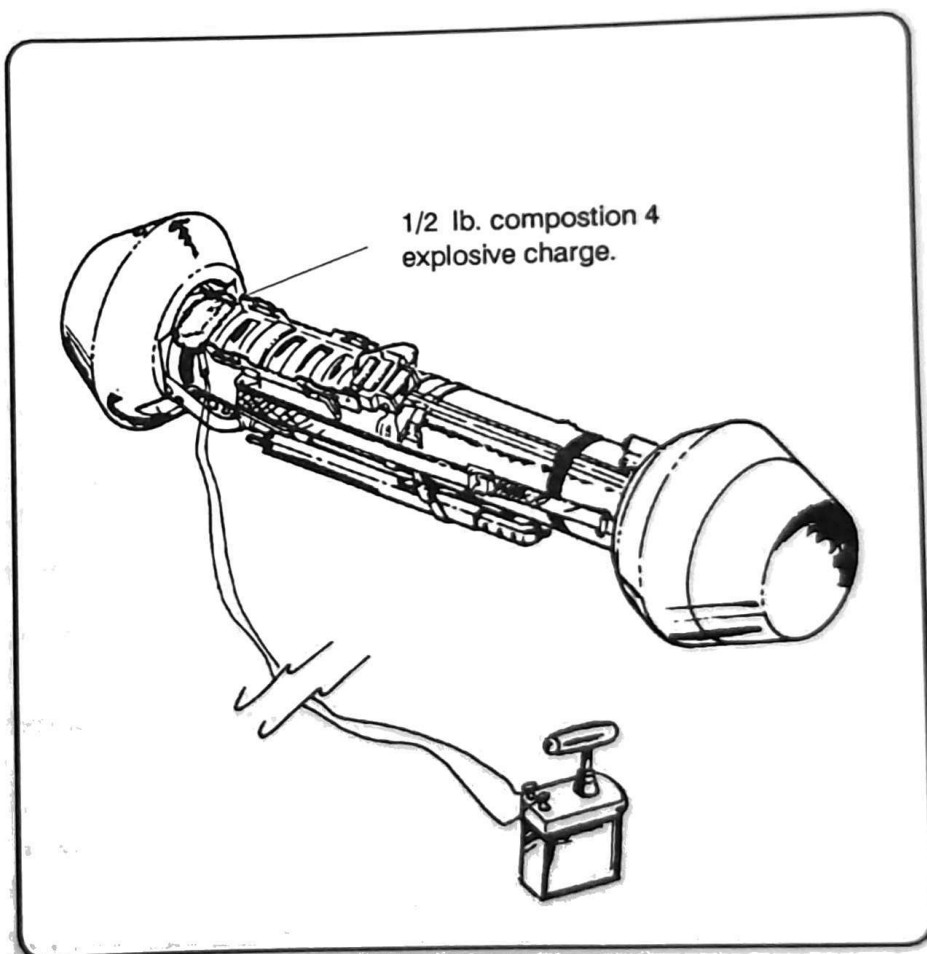

Figure D-1. Explosive charge on a round.
b. **Explosives.** The use of explosives not only destroys the missile, but also the launcher. One-half pound of explosive placed on the round close to the warhead should destroy the round (Figure D-1).
(1) Determine whether electrical blasting caps and wire, or nonelectric blasting caps and safety fuses can be used for priming and detonating the explosive charges. If nonelectric caps are used, they must be crimped to at least a 2-meter length of safety fuse.